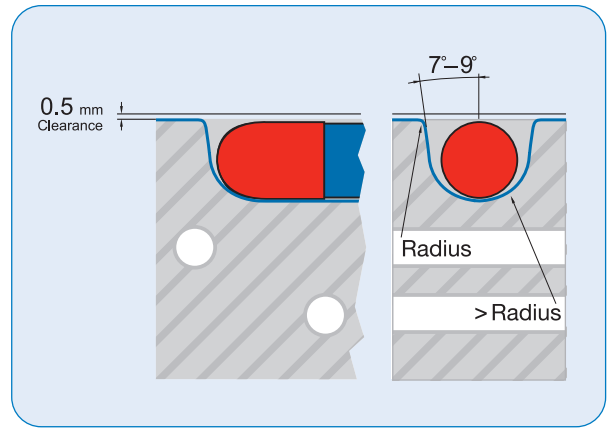

Figure 5
- Cavity dimensions must allow for proper clearance between the dosage and the lid stock to enable efficient product feeding and proper sealing of the lid stock to the blister. The recommendation is to design the cavity dimensions for the maximum dosage size based on product tolerances allowing for 0.5 mm of clearance between the dosage and the lid stock. (Figure 5).